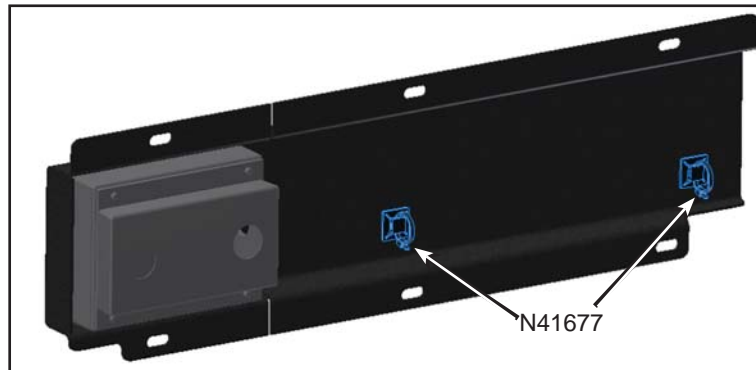

Figure 3 - N41677 Cable Tie Mounting Base Installation
- 1.7. Install N41677 (2x) cable tie mounting bases on the N81835 bracket. See Figure 3.